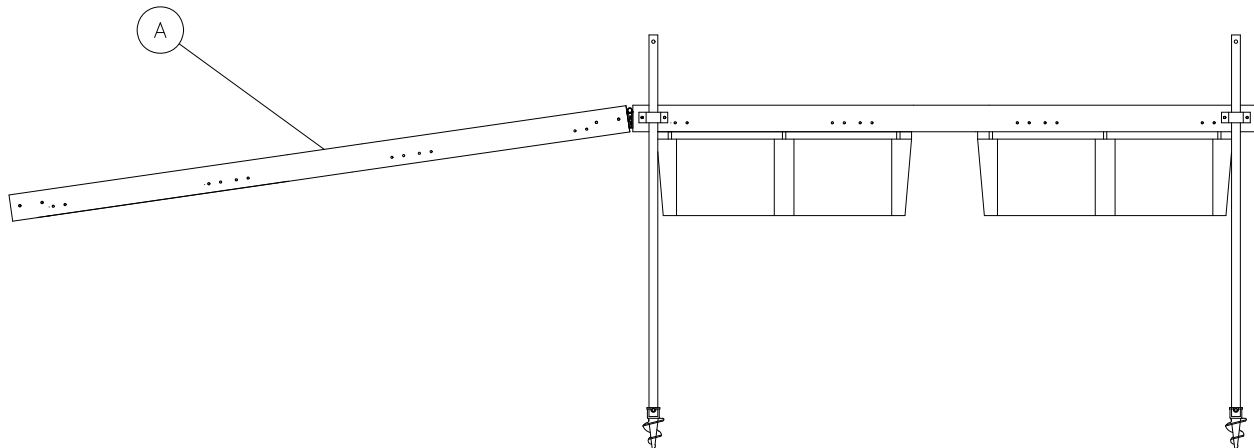

Figure 3-7
1. (Refer to Figure 3-7) After the floating dock sections are in their desired positions, and the anchoring kits are installed, the dock ramp (A) may be assembled.